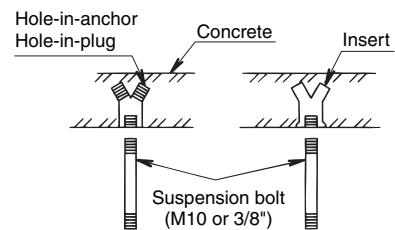

Fig. 3-54
- (2) Depending on the ceiling type:
- Insert suspension bolts as shown in Fig. 3-54